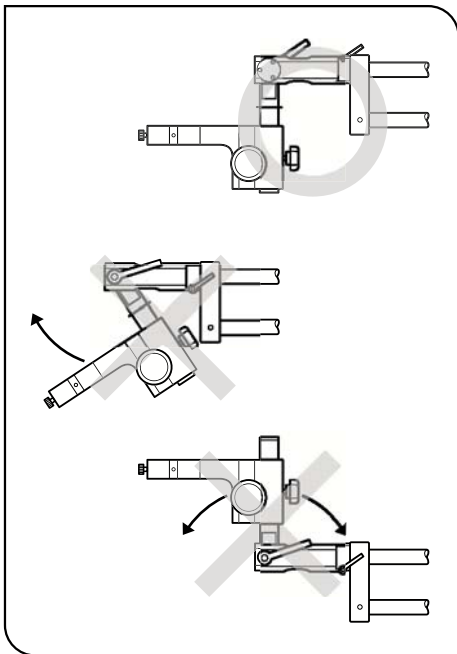

Fig. 13
4. When the mounted microscope has a TV camera or photography unit mounted on it, do not tilt the microscope body. As the microscope is heavy and the center of gravity of the system is located high, loosening the clamping lever may cause the microscope to rotate suddenly, causing damage to the TV camera, photography unit or microscope body. (Fig. 13) (For the method of this operation, see page 13.)